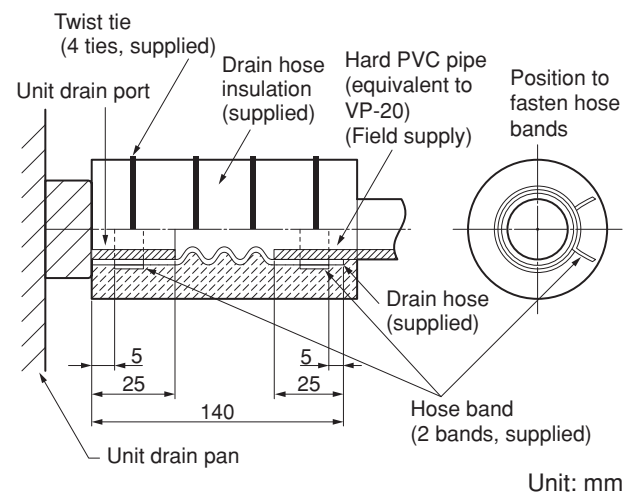

Fig. 3-96
- Attach so that the hose band fastener is on the side of the drain port. (Fig. 3-96)